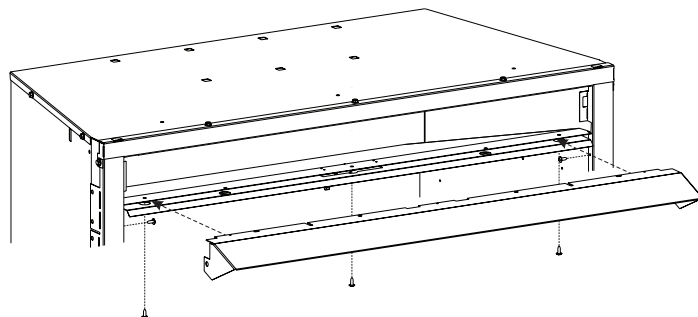

Figure 12
2. Loosen (4) shoulder screws.
3. Insert trim side left and trim side right into the fireplace. Tighten (4) shoulder screws.
5. Attach fireplace hood to fireplace with (5) screws. **See Figure 12.**